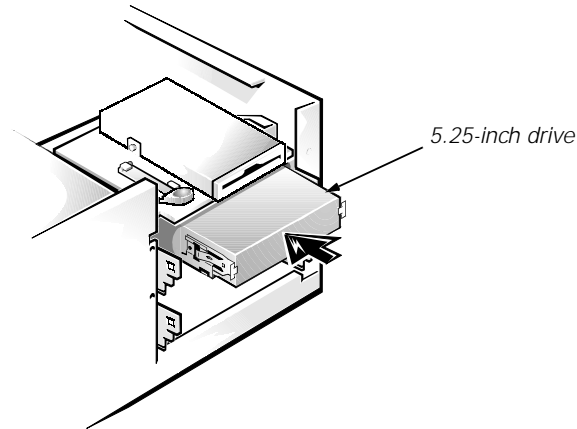

Figure 10-7. Inserting the New Drive Into the Drive Bay
- 5. Slide the new drive into the drive bay until it snaps securely into place (see Figure 10-7).**